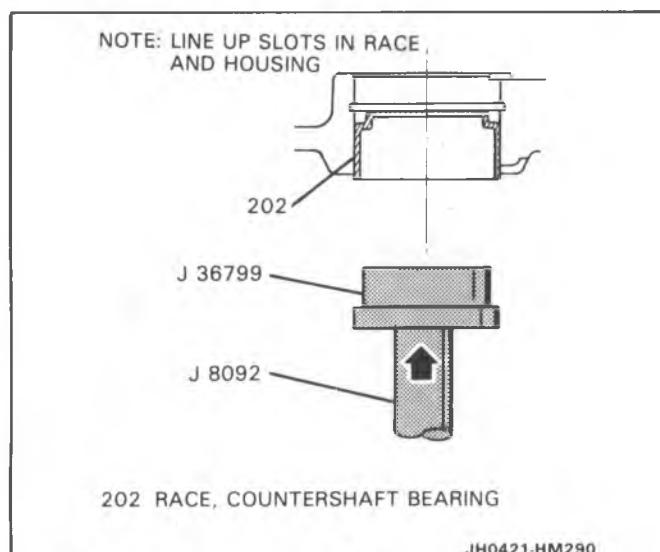

Figure 50 Countershaft Bearing Race Install
5. Countershaft bearing race (202) using J 36799 and J 8092 (Figure 50).